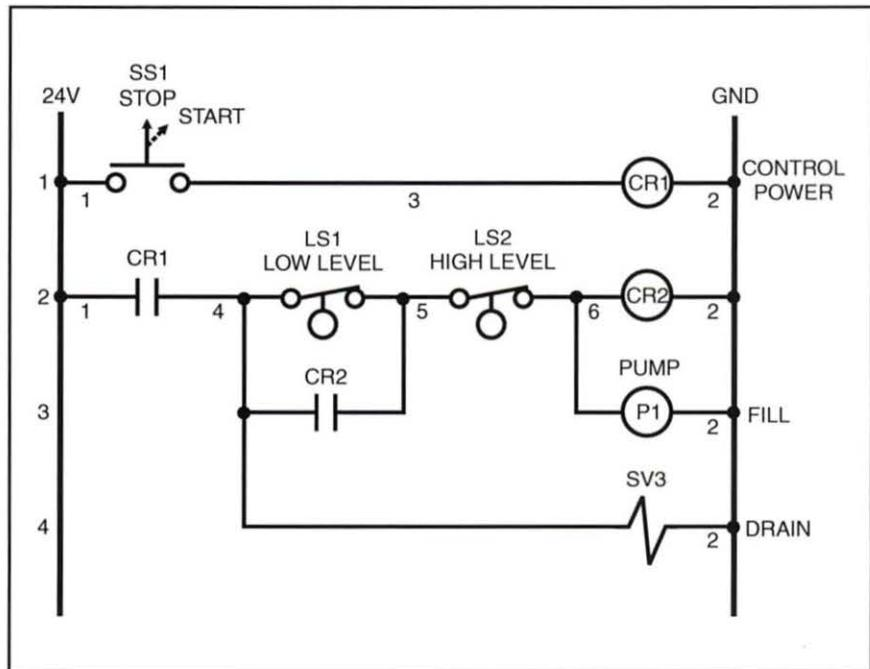
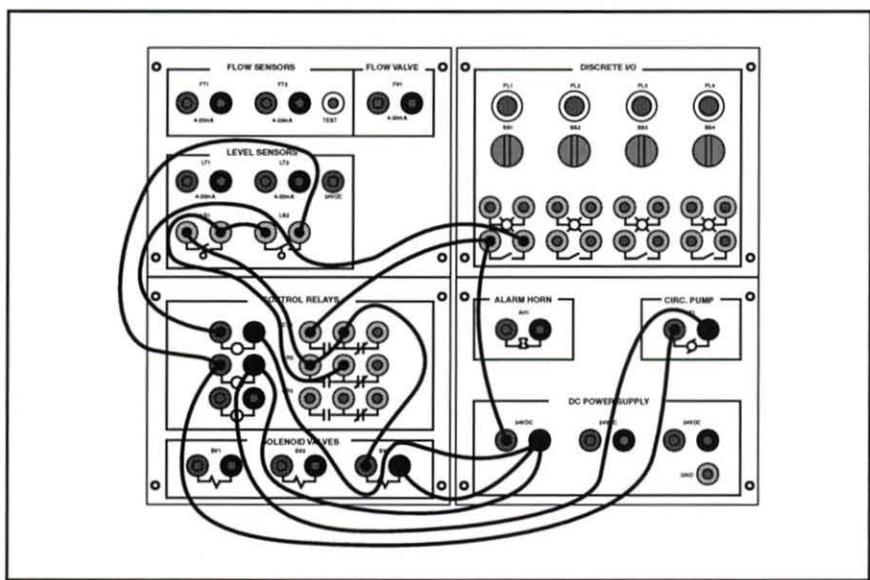

Figure 13. On/Off Control Ladder Diagram
Figure 14. On/Off Control Circuit Pictorial
3. Connect the on/off control circuit according to the ladder diagram in figure 13. Figure 14 shows a pictorial diagram.